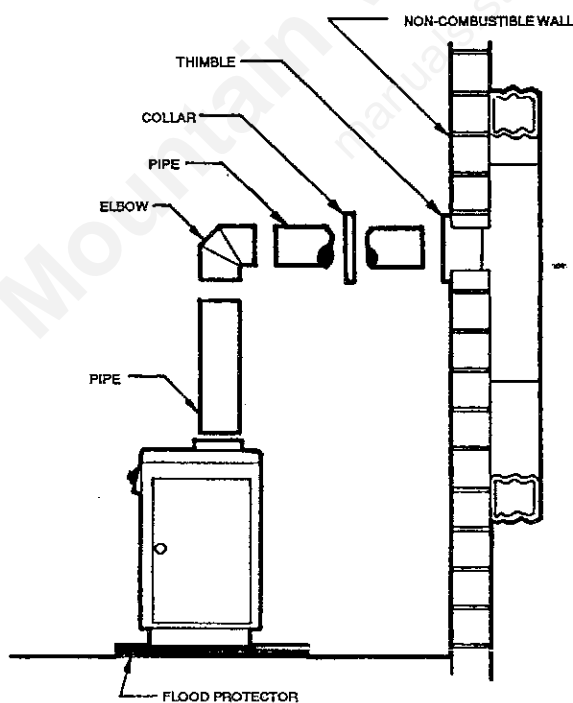

FIG. 5
2. Place the heater on solid masonry or solid concrete. When the heater is used on a combustible floor, use a non-combustible floor protector 3/8" millboard having a thermal conductivity of  $K=0.84$  BTU in/ft.2hr. deg. F with 28 gauge sheet metal or a U.L. listed floor protector. Have the floor protector extend 16" beyond the door side of the heater and under the connector pipe in the back (Fig. 5, and 6).
Before using an existing masonry chimney, clean the chimney and inspect the flue liner to be sure it is safe to use. Make repairs before attaching the heater. Look at Fig. 5. The connector pipe and fittings you will need to connect directly to a masonry chimney are shown.